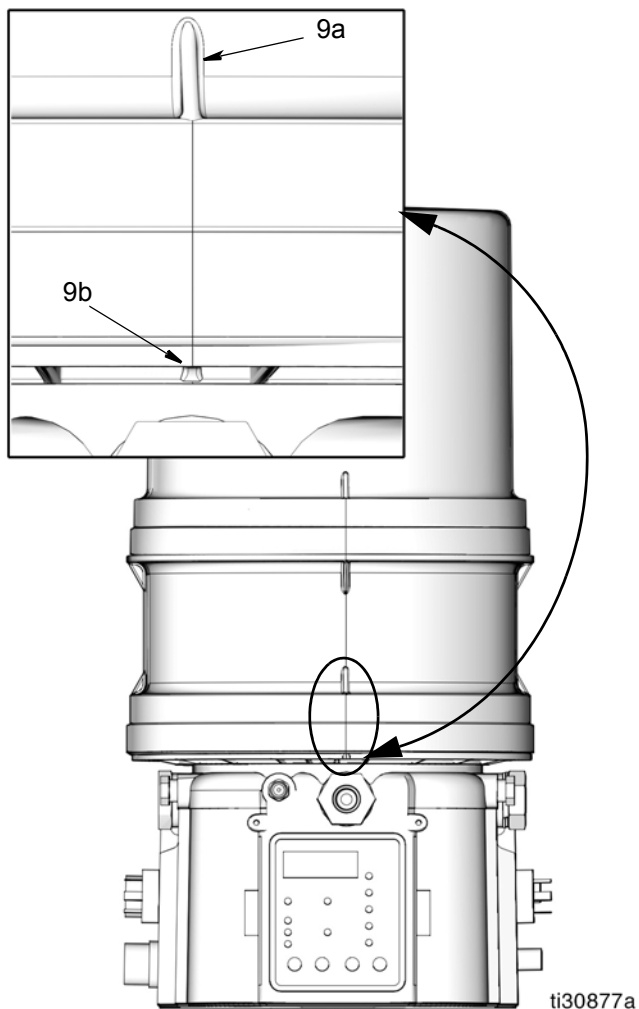

FIG. 8
NOTE: Align the gusset (9a) running down the front of the reservoir with the circle indicator (9b) molded into the front of the adapter plate (2) (see FIG. 8).